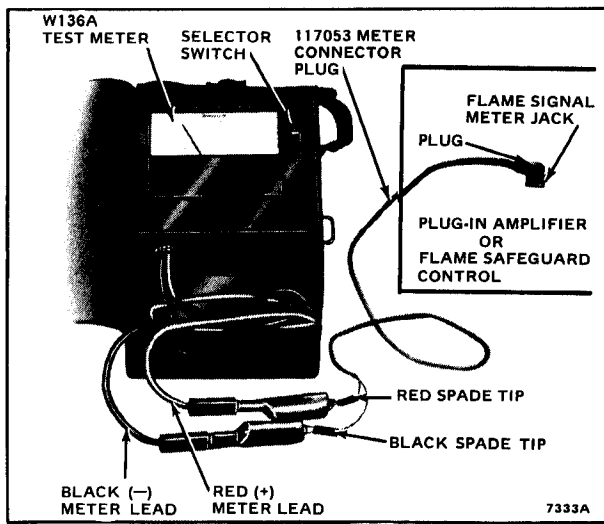

FIG. 16—MEASURING THE FLAME SIGNAL.
With the detector installed and the burner(s) running, adjust the position of the detector for optimum flame signal. Read the flame signal in microamps at the meter jack on the plug-in flame signal amplifier or on the flame safeguard control (Fig. 16). Use a microammeter with a 0 to 25 microamp dc range, such as a Honeywell W136A, which has a plug for inserting into the meter jack. (A 117053 Meter Connector Plug may be ordered separately if needed.) Connect the RED (+) meter lead to the red spade tip and the BLACK (-) lead to the black spade tip before inserting the plug into the meter jack.
3. If the flame relay in the control pulls in, the C7012 is functioning properly. If not, look for a dirty quartz window or sighting pipe, or a misaligned sighting pipe. Measure the flame signal as described in the previous ADJUSTMENTS AND CHECKOUT section (see Fig. 16).